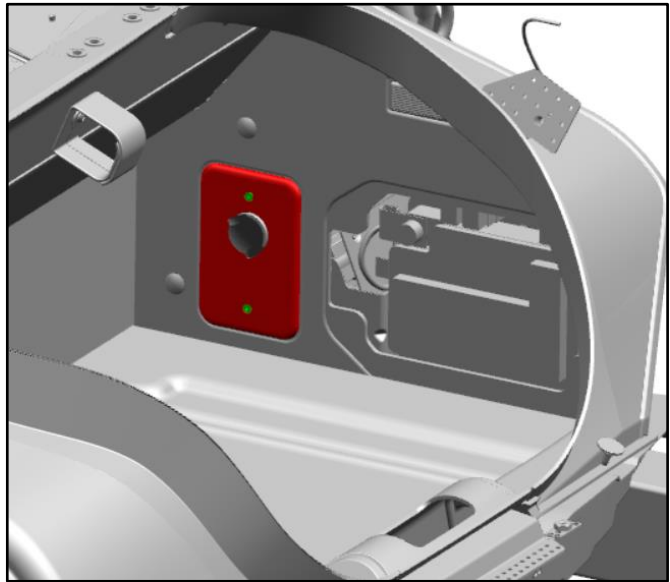

Figure 3
5. Remove the two screws that attach the panel for the 12V power supply to the side panel of the luggage compartment. (Refer to Figure 3.)